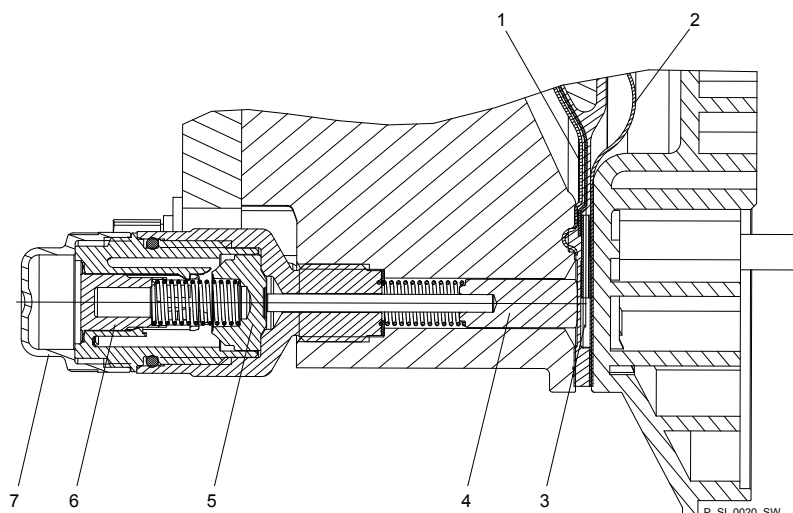

Fig. 34: Section through the Sigma diaphragm rupture warning system ("Visual break indicator" version)
2. ➔ If the piston of the diaphragm rupture sensor - see Fig. 34, item 4 - should have become dirty or damp, clean both it and the hole in which it runs.